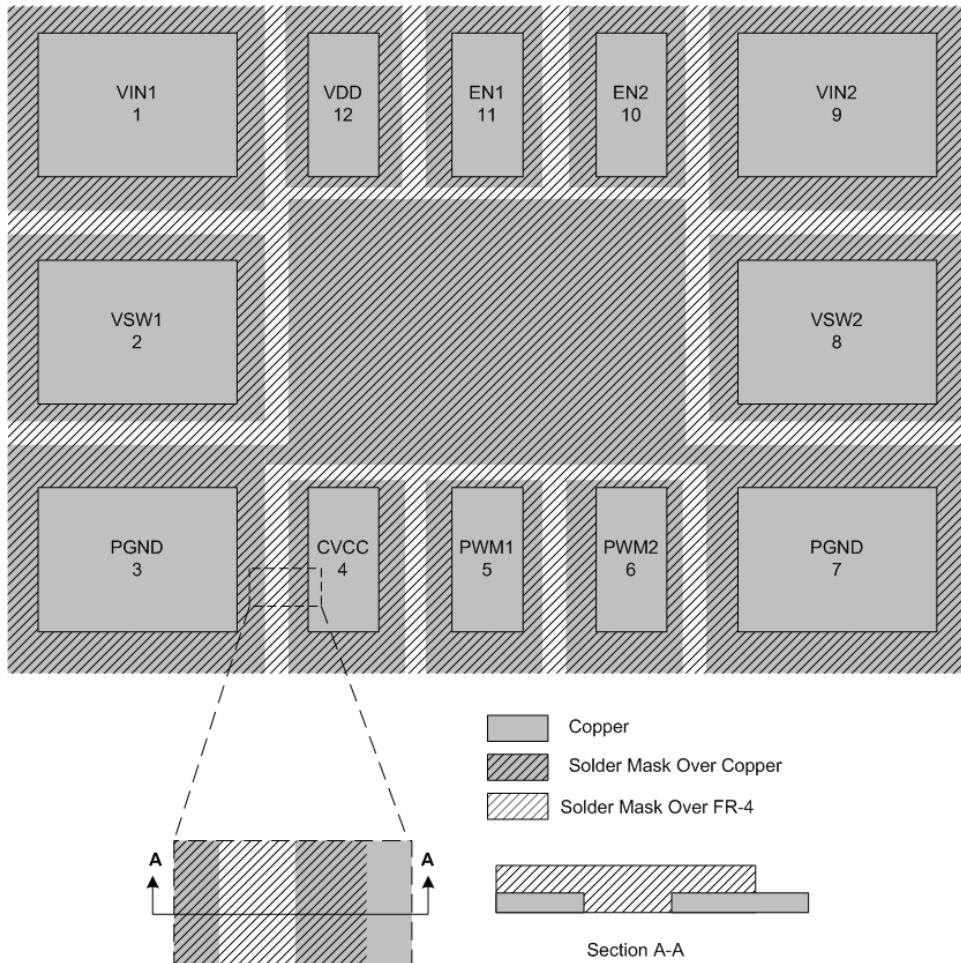

Figure 11 Top Copper and Solder-mask Layer of PCB Layout
- All pads on the iP2021C footprint design need to be Solder-mask defined (see Figure 11). Also refer to International Rectifier application notes AN1028 and AN1029 for further footprint design guidance.